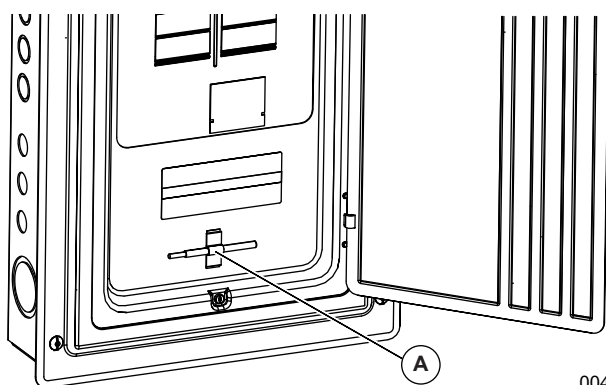

Figure 4-1. Manual Handle Storage
See Figure 4-1. A yellow manual handle is shipped with the transfer switch and is located in the bag containing the owner's manual. A retaining clip (A) inside the transfer switch enclosure stores the manual handle when not in use.